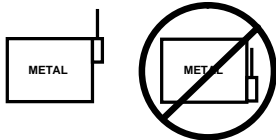

Figure 2. Mounting on or Near Metal
- ❑ Avoid areas with excessive metal or electrical wiring, including furnace and utility rooms. If unavoidable, mount on or near metal with the antennas extending above the metallic surfaces, as shown in Figure 2.